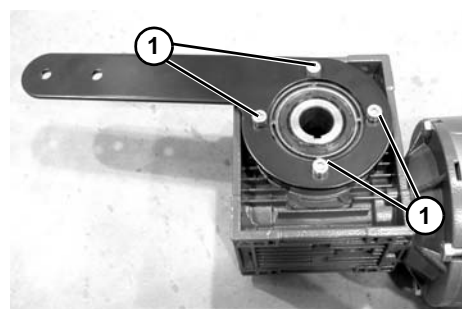

Figure 26
2. If required, change gearmotor position by removing four (4) screws (Figure 26, item 1). Rotate gearmotor mounting plate to other position and replace screws (AL). Tighten to 200 in-lb (22.5 Nm).